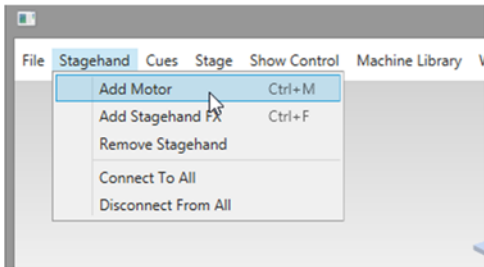

Figure 73
1. From the **Stagehand** menu, select **Add Motor** or **Add Stagehand FX** (Figure 73).